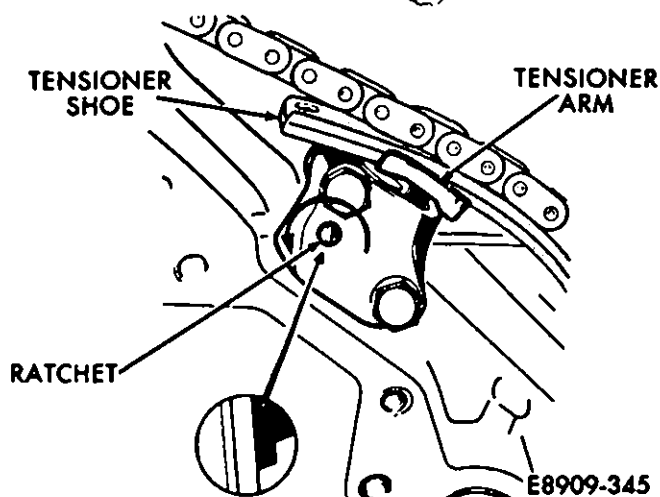
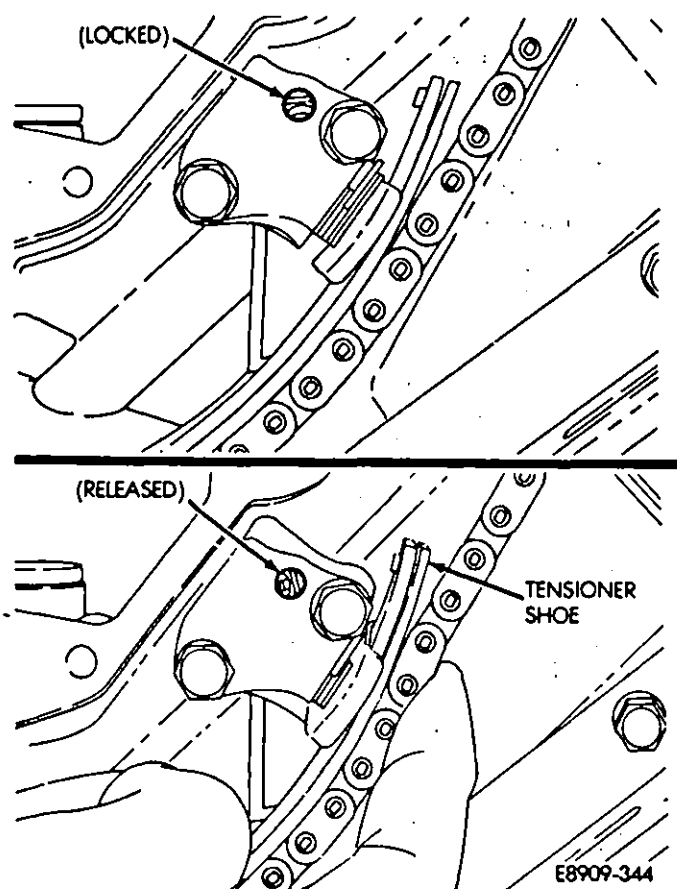

Fig. 22—Right Timing Chain Tensioner
Fig. 23—Tensioner Ratchet
(15) To install the left timing chain tensioner use a thin blade screwdriver to turn the ratchet counterclockwise. Then push the tensioner arm in. Position the tensioner over the filter and the tensioner shoe into the arm (Fig. 22).
(16) Tighten the mounting bolts to 6 N·m (53 in-lbs) torque.
(17) Install the right camshaft sprocket bolt and tighten the bolt to 80 N·m (59 ft-lbs) torque.
(18) Push both tensioner shoes in to release the ratchet of the tensioner from the locked position and then let the shoes out (Fig. 23).